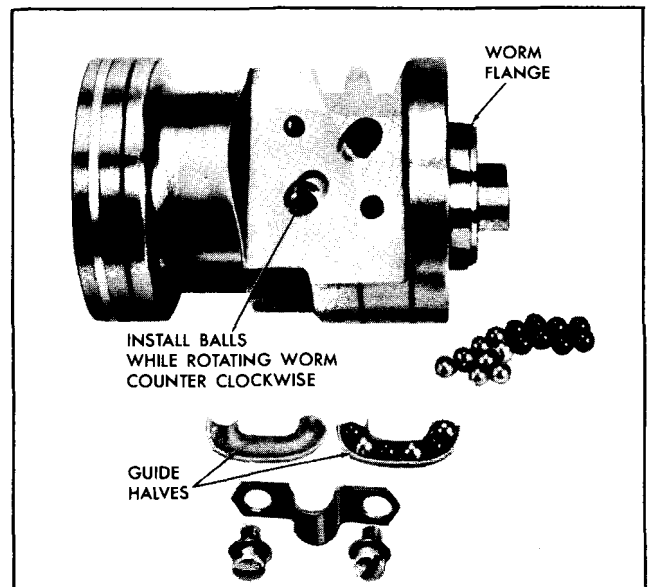

Fig. 9-97 Installing Balls in Rack-Piston
3. Turn the worm until the worm groove is aligned with the lower ball return guide hole (Fig. 9-97).